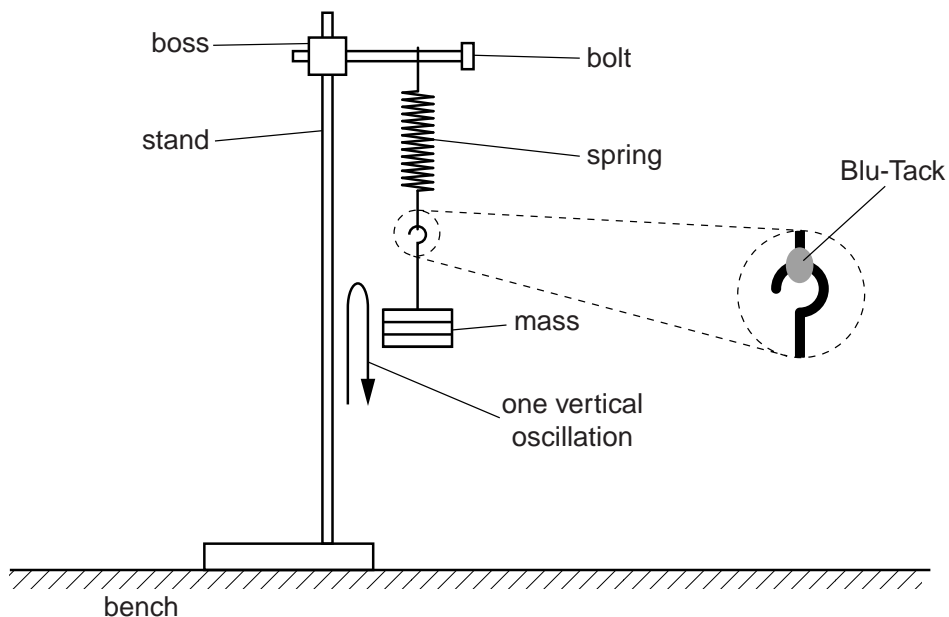

Fig. 2.2
(b) (i) Set up the apparatus as shown in Fig. 2.2 with mass 1 suspended from the spring and secured with Blu-Tack.
- (ii) Pull the mass down approximately 2 cm and release it. One vertical oscillation is shown in Fig. 2.2. Measure and record the time t for the mass to make 10 vertical oscillations.